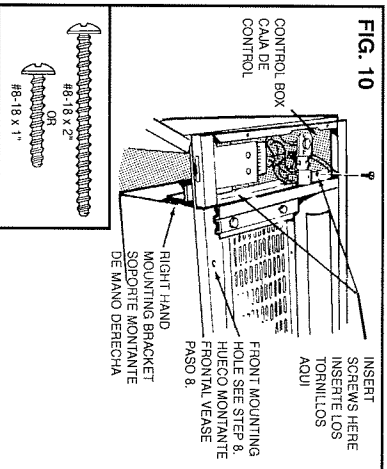

FIG. 10
Insert two (2) screws, short or long as appropriate, through control box and into other mounting bracket. Do not tighten screws completely. (FIG. 10)
Install two (2) additional screws into cabinet bottom, through holes along the front edge of hood. (See FIG. 10)